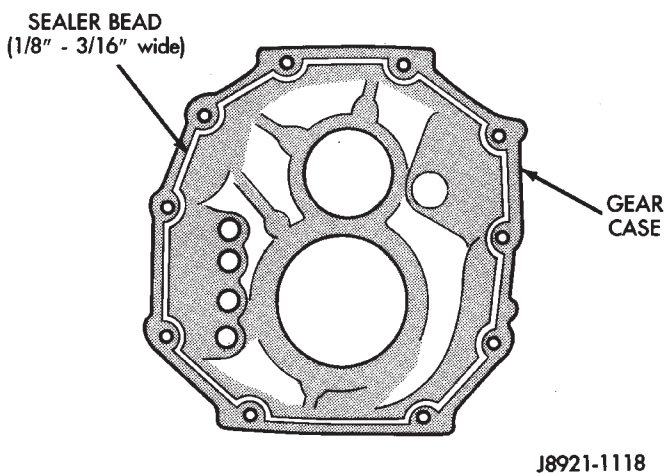

Fig. 36 Apply Sealer to Transmission Gear Case
(1) Remove any residual sealer from transmission case, intermediate plate, adapter/extension housing, and front bearing retainer.
(2) Apply a 1/8 to 3/16 inch wide bead of Threebond® Liquid Gasket TB1281, P/N 83504038, as shown, making sure to keep sealer bead to inside of bolt holes (Fig. 36).